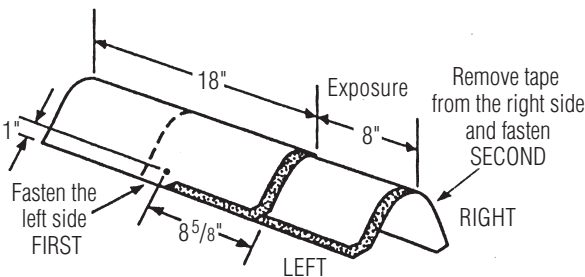

Figure 17-19: Installation of Shangle® Ridge shingles on hips and ridges.
7. Fasten each cap with two fasteners (Figure 17-19). The fasteners must be 1 3/4" long, or longer, so they penetrate either 3/4" into the deck or completely through the deck, exposing at least 1/8" of the tip of the nail. Expose 8" of the Accessory along the ridge or hip line and cover all fasteners.